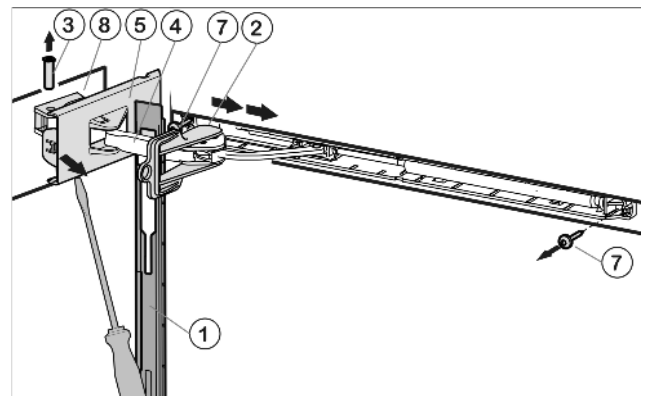

Fig. 5
- ▶ Slide the faceplate forwards over the soft stop bracket Fig. 5 (4) in the direction of the appliance.
- ▶ Snap the safety lock Fig. 5 (2) into the oblong hole.
- ▶ Using a screwdriver, detach the cover *Fig. 5 (5)* on the hinge side as far as the first detent.
- ▶ Press the pin *Fig. 5 (3)* out from underneath.
- ▶ Press the soft stop bracket *Fig. 5 (4)* towards the door.
- ▶ Fully detach the cover *Fig. 5 (5)* on the hinge side and remove it.
- ▶ Remove the faceplate *Fig. 5 (1)*.
- ▶ Unscrew the soft stop unit (2x Torx® 15) *Fig. 5 (7)*.
- ▶ Unscrew the bearing element *Fig. 5 (8)*, turn it 180° and transfer it to the opposite side. Possibly make preliminary holes with a bradawl or use a cordless screwdriver.